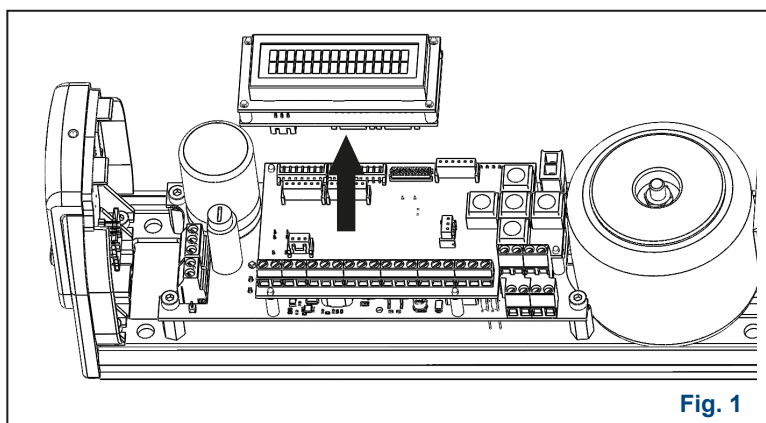

Fig. 1
- 2 - Remove the display module from the lower card by pulling upwards (Fig. 1);